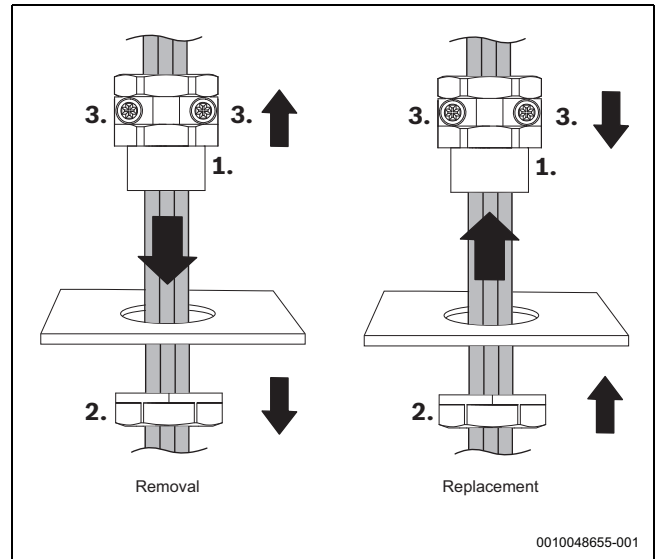

Fig. 31 Attaching/replacing cable glands
- Remove gland nut (2) fig 31
- Loosen screws (3) and pull cable downwards and out of the gland and plate.
- Place gland nut (2) on new cable and feed cable up through plate hole and into gland body fig 31
- With sufficient cable length to reach the connector, tighten gland screws (3) ensuring 100N pull force resistance
- Fit gland body (1) into plate hole and fit / tighten nut (2)